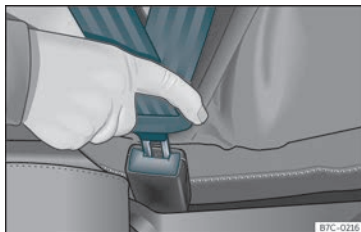

Fig. 13 Insert the latch plate of the seat belt into the buckle.
- Engage the latch plate in the buckle of the corresponding seat»» Fig. 13.